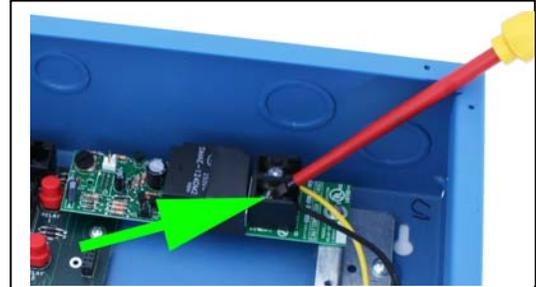

Figure 4 - Line and Load
Step 6: Connect each line and load wire. (**Figure 4**).
Step 7: Tighten line and load terminal (**Figure 4**) to specification within installation manual.